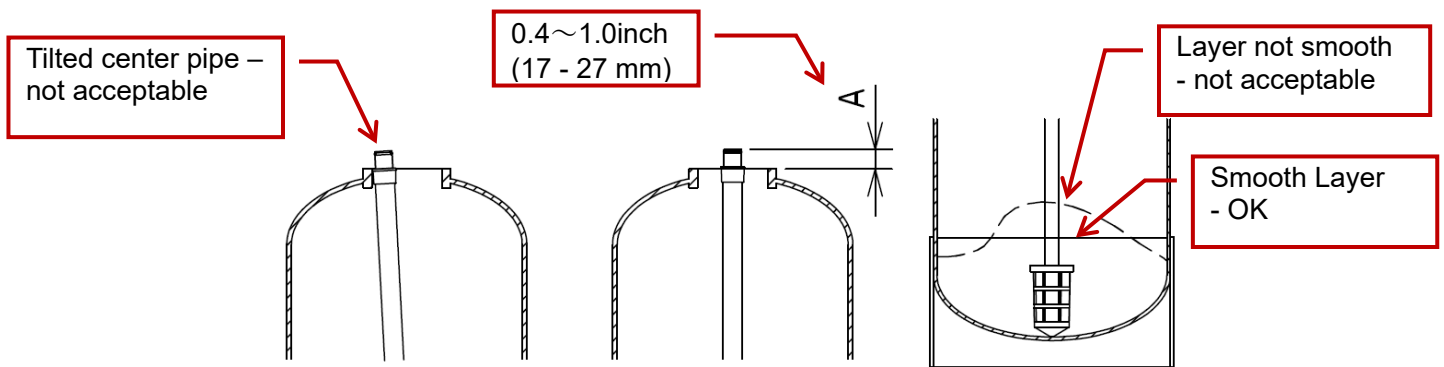

Figure 4-5 Gravel Filling Precautions
- * Always keep the collecting pipe near the center. If the collecting pipe is not centered, the control valve will have difficulty being attached to the tank (Figure 4-5 left).
- * Do not allow the collecting pipe to float. The tip of the collecting pipe should be at 0.4~1.0 inch (17 – 27 mm) above the resin tank opening (Figure 4-5 center).
- * Keep the layer of gravel as smooth as possible. If the layer is largely slanted or conically shaped, use the pipe to smooth the layer (Figure 4-5 right).